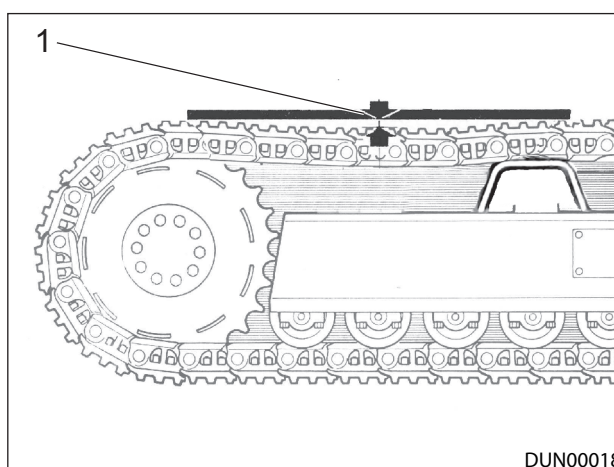

Figure 9.13 - Measuring Track Tension
6. Measure the maximum amount of track sag from the high point of the track to the bottom of the 'straight edge', Ref: Figure 9.13.